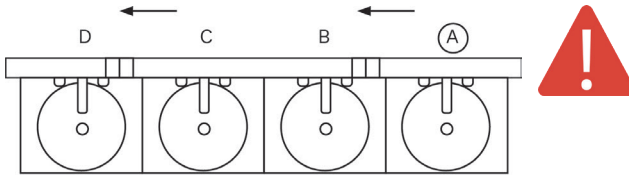

Figure 2
- Step 1. In a case where multiple taps are fitted along side by side (figure 2), it is important to ensure the water pressure is sufficient to service the number of taps fitted.